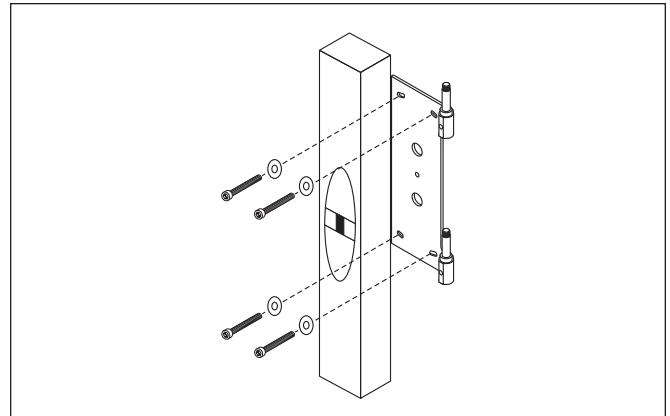

Figure 6. Steps 6–7
- 6 Using a level and a 3mm Allen tool, square the bracket and drive the four 1.5" Allen head screws and flat washers into the upper and lower wall anchors. Use a regular wood screw in any location that hits a stud. Do not fully tighten the screws (see figure 6).
- 7 Using a level, make sure the bracket is level and tighten all four screws (see figure 6).